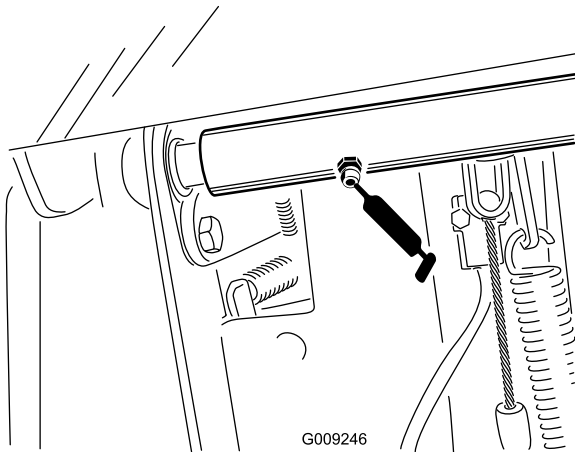

Figure 37
- Brake pedal pivot shaft bearings (2) (Figure 37)